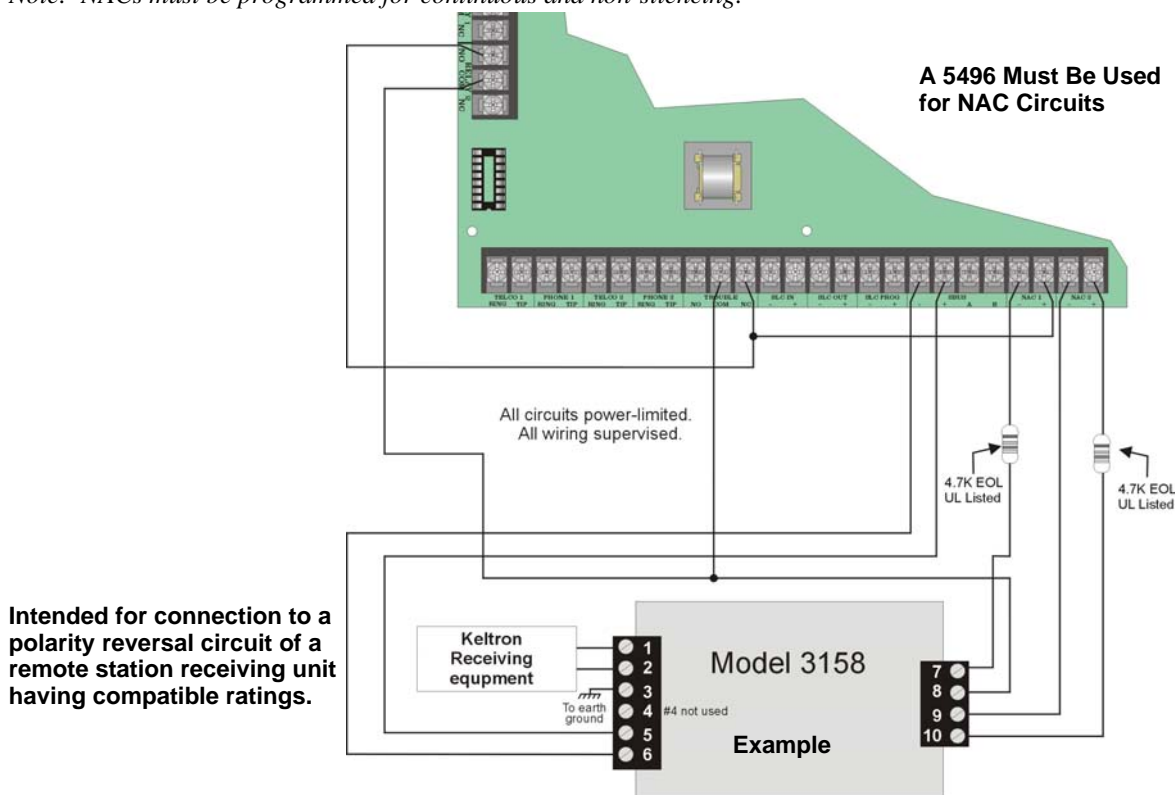

Figure 4-33 Keltron 3158 Connection to Control Panel
1. Wire the 3158 to the control panel as shown in the connection list and Figure 4-33.